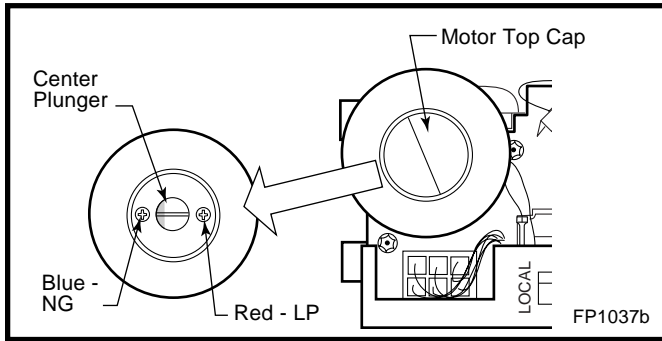

Fig. 65 Depress and turn center plunger.
4. Remove motor top cap. Depress and turn center plunger until arrow points to correct screw. Red for LP and Blue for NG. **NOTE:** Plunger will "snap" into NG position when arrow is close to blue screw. It will not "snap" at LP (Red) position. (Fig. 65)